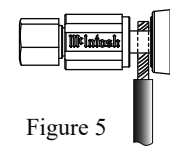

Figure 5
- Referring to the illustration connect the Loudspeaker hookup cables to the ML1 Negative (-) Input Terminal and Positive (+) Input Terminal. Insert the spade lug connector or prepared section of the cable end into the Input Terminal side access hole, and tighten the Input Terminal cap until the cable is firmly clamped into the terminals so the lugs or wire cannot slip out. Refer to figures 5 and 6. Then connect cables to the ML1 HIGH/MID Negative (-) and Positive (+) Input Terminals.